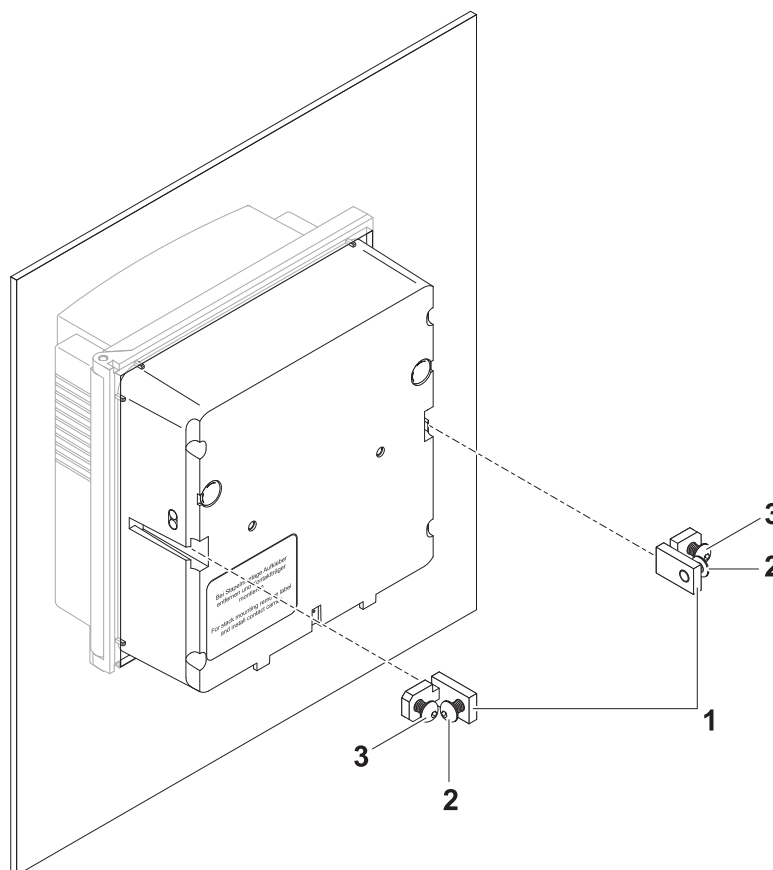

Fig. 3-9 Mounting the DIQ/S 181 in Fig. 3-9
| 2 | Slightly unscrew the screws (pos. 2 and 3) of the two angle brackets (pos. 1 in Fig. 3-9), but do not remove them. |
3	Push in the two angle brackets - as shown in Fig. 3-9 - into the lateral guides of the universal transmitter up to the stop.